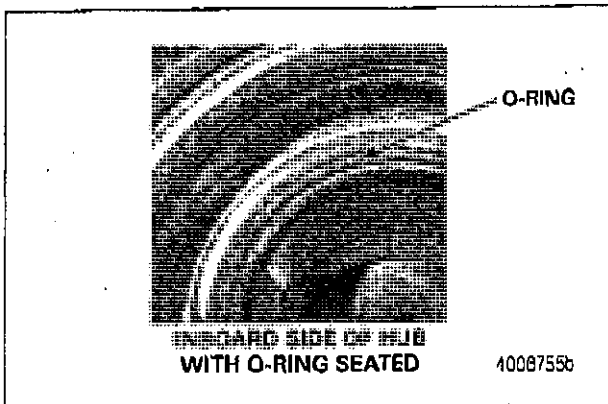

Figure 12
1. Ensure the O-ring (part number AM1 205Q2747) between the bearing cartridge and the spindle shoulder is inserted into the groove and in place when the hub is installed. Figure 12.